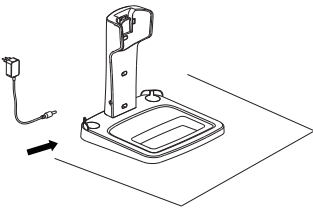

Fig. 5-1a
1. Fix the charger by following Fig.5.1, insert the small end of adaptor into the charger back by following Fig. 5-1a.